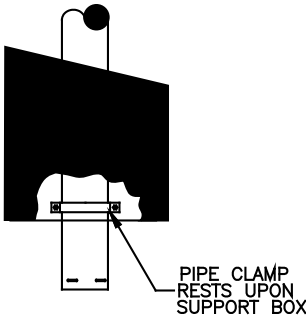

Figure 33
8. Place the Support Clamp, included with Support Box, loosely around Pipe Sections running through hole in Support Box (**Figure 33**).
10. After all PelletVent Pro Pipe Sections and components are assembled and connected down to the appliance seal and secure the Appliance Adapter to stove. Using a level, make slight adjustments in the position of the appliance until the pipe is truly vertical. Tighten the bolts in the Support Clamp (**Figure 33**).